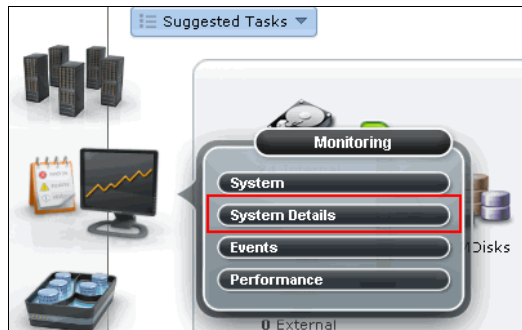

Figure 12-74 Power down via system details
1. Browse to the Monitoring function icon (as shown in Figure 12-74) and click **System Details**.